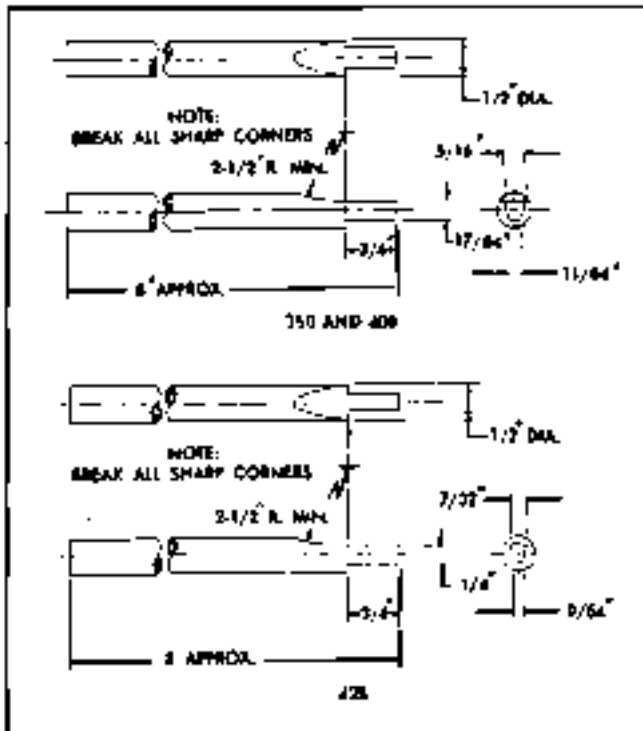

Fig. 6-106 Rear Main Bearing Seal Tool
4. Use tool shown in Fig. 6-106 made from brass bar stock to pack upper seal as follows: